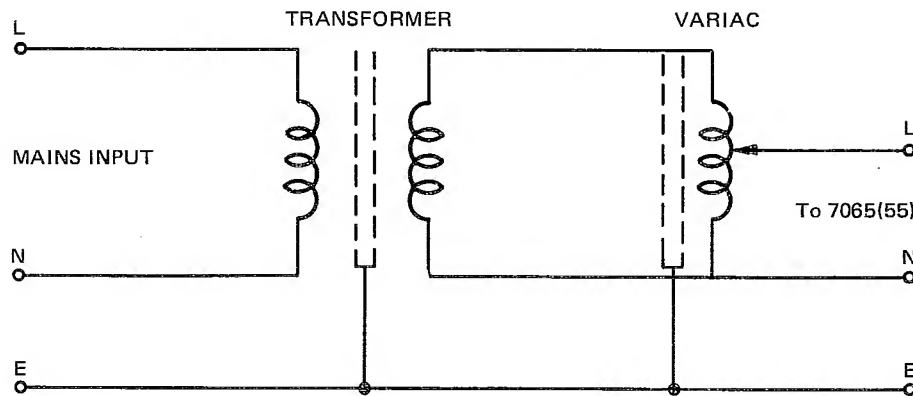

Fig. 5.1
1. Connect the 7065(55) to the mains transformer as shown in Fig. 5.1.